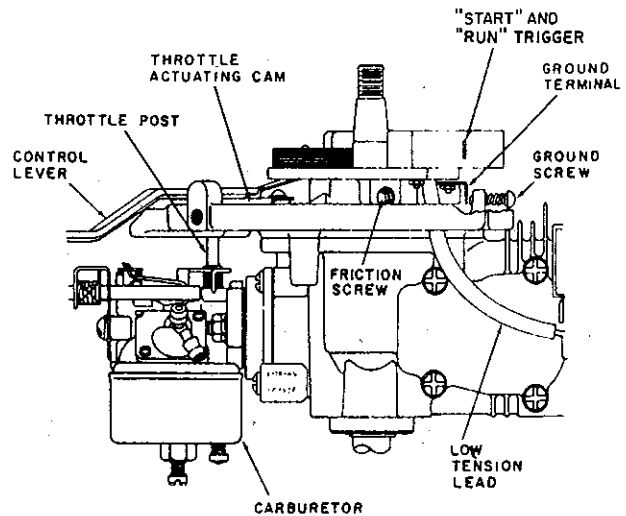

Figure 34.
B. The ground screw (ignition cut-out) should be adjusted to contact the ground terminal on the ignition unit when the control lever is in the full retard position. (See Figure 34.)
adjusted to contact the ground terminal on the ignition unit when the control lever is in the full retard position. (See Figure 34.)